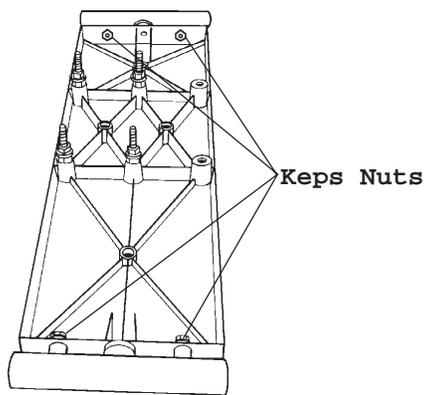

Figure B-105
86. If the extension table's tube is not aligned with the worktable's tube, use a $7/16$ " wrench to slightly loosen both keps nuts (248) attaching the tube to the extension table. Make the needed adjustments, then re-tighten the nuts. See Figure B-105.